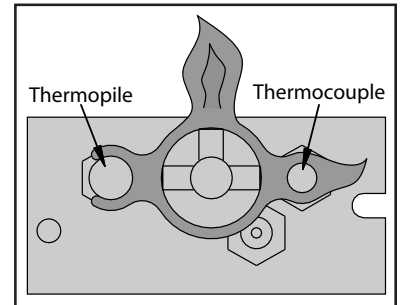

Figure 4: Pilot Flame
1. Turn off the gas to the fireplace. **If not recently done, remove the glass and let the unit air out for at least five (5) minutes to clear out any gas.** Turn on gas to the heater. Leak test all joints with soapy water. **NEVER USE OPEN FLAME FOR LEAK TESTING.**
2. Start the pilot by pressing the gas control knob and turning it to PILOT. While holding the gas control knob in, press the piezo ignitor several times until the pilot light starts. Hold the gas control knob in for 30 seconds. Check that the pilot has fully engulfed the thermocouple assembly (see Figure 4).